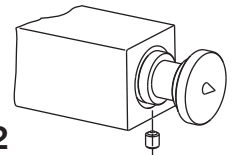

FIGURE 2
2 Insert the Locator Pins (6K) into the round holes in the ends of Glass Shelf Frame (1) so that the points face out. The shoulders must be flush with the end of the Glass Shelf Frame. (see Figure 2)